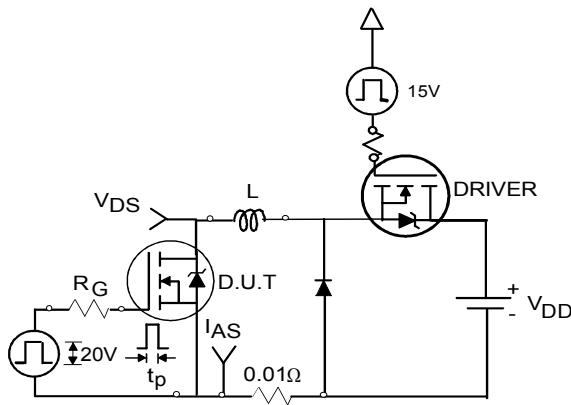

Fig 12a. Unclamped Inductive Test Circuit
- ③ $I_{SD} \leq 82\text{A}$, $di/dt \leq 310\text{A}/\mu\text{s}$, $V_{DD} \leq V_{(\text{BR})\text{DSS}}$, $T_J \leq 175^\circ\text{C}$.
- ④ Pulse width $\leq 400\mu\text{s}$; duty cycle $\leq 2\%$.
- ⑤ $C_{oss\ eff.}$ is a fixed capacitance that gives the same charging time as C_{oss} while V_{DS} is rising from 0 to 80% V_{DSS} .
- ⑥ Limited by $T_{J\max}$, see Fig.12a, 12b, 15, 16 for typical repetitive avalanche performance.
- ⑦ When mounted on 1" square PCB (FR-4 or G-10 Material). For recommended footprint and soldering techniques refer to application note #AN-994
- ⑧ R_θ is measured at T_J of approximately 90°C
3. Equation below based on circuit and waveforms shown in Figures 12a, 12b.